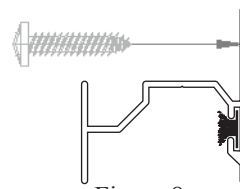

Figure 8
Drill three (3) 3/16" holes in the closer (#R8021), two approximately 4" from each end, one approximately in the middle using the groove in the closer flange (Figure 8). The closer is designed to pocket the tracks. It may be installed without modifying the tracks, leaving a small gap. For a flush fit, the tracks may have a slight radius trimmed on them with a file as shown (Figure 9).